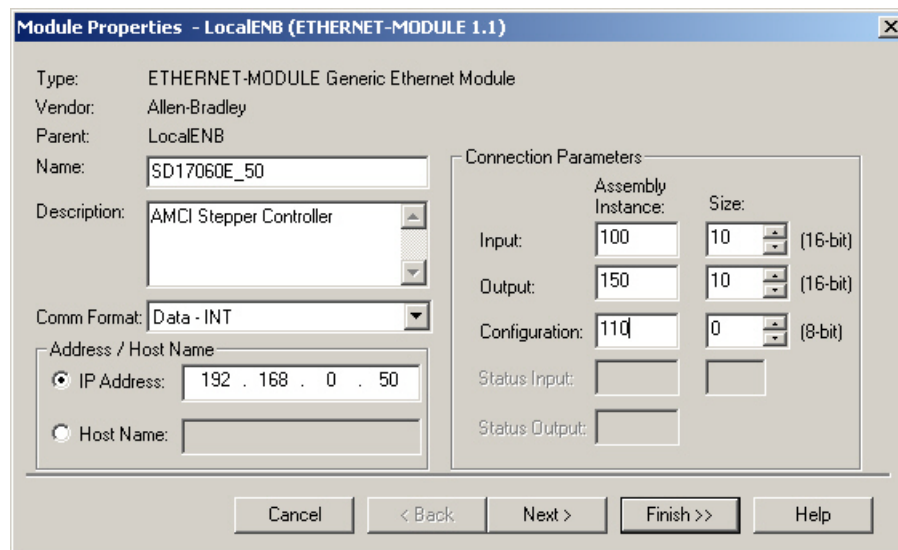

Figure 6.4 Sample SD17060E Configuration Screen
- 3) Set the following parameters in the Module Properties window. All parameters not listed here are optional. Figure 6.4 shows a completed screen.